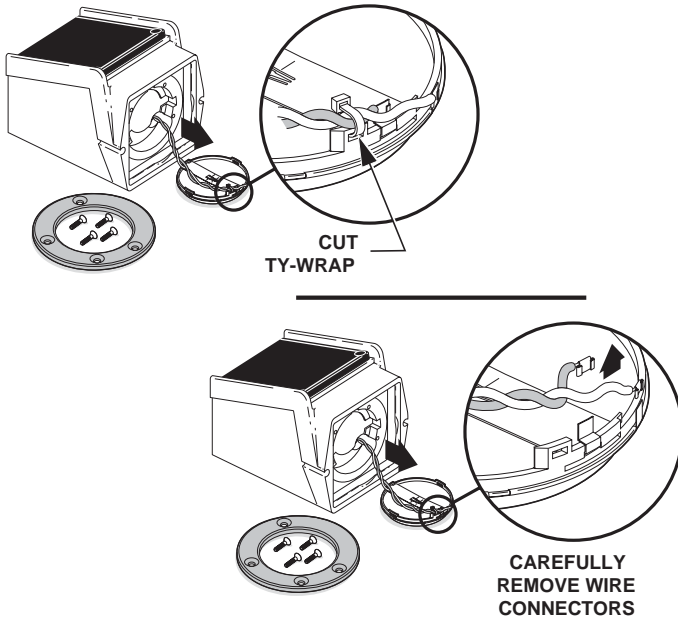

**Figure 8-2. Remove Screws, Retaining Ring, and “O”-ring**
2. Remove the four screws and the black retaining ring. Remove and discard the “O”-Ring (Figure 8-2 on page 8-4).